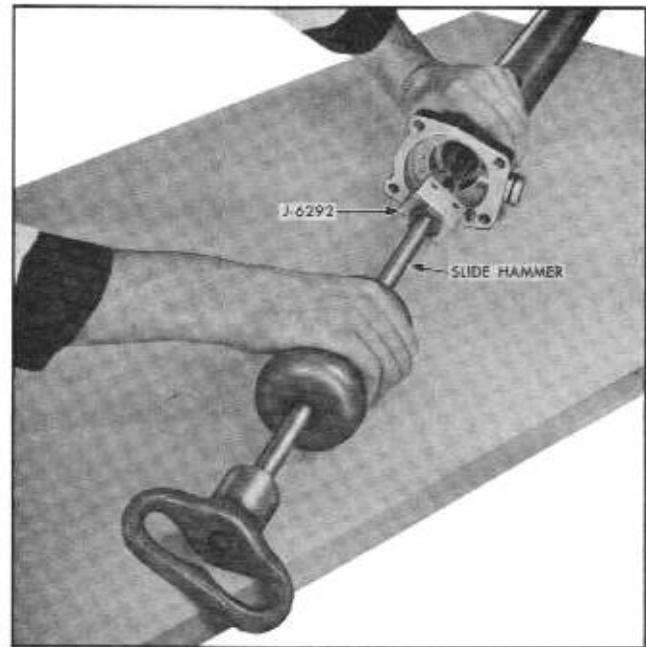

Fig. 9-33 Removing Bearing and Seal from End Cover
1. Remove end cover oil seal, back-up washer, and bearing, using tool J-6292 with slide hammer J-2619-A (Fig. 9-33).